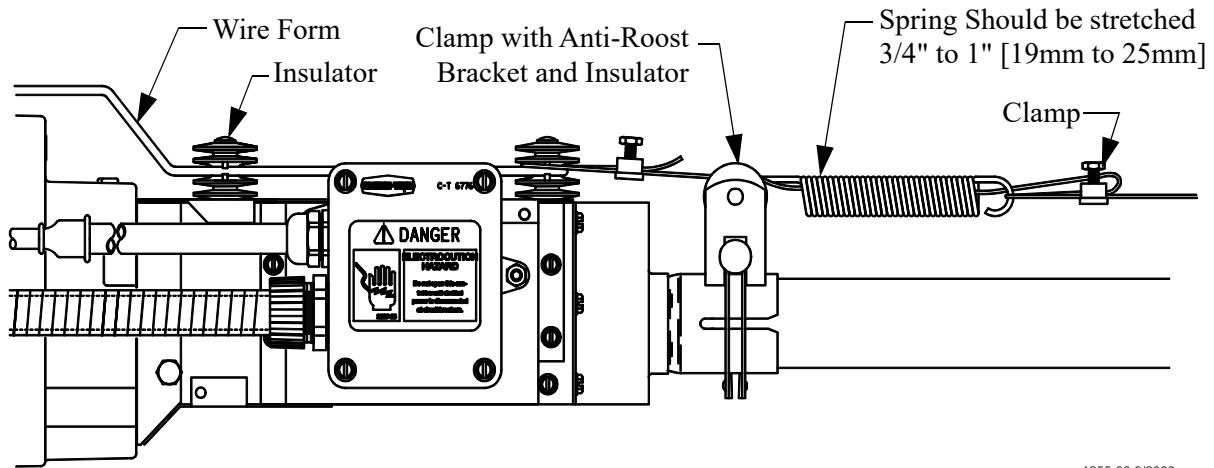

Figure 46. Anti-Roost Installation at the Control Unit
9. At the control unit, after clamping the cable to the spring, cut the cable about 8" to 10" [200 to 250 mm] longer than necessary. Feed the end of the cable through the center of the spring, around the first insulator on the control unit, and clamp the cable using the cable clamp supplied with the control unit. (See **Figure 46**). Install the wire form on the control unit insulators. Be sure the guard snaps into the retainers molded into the insulators. (See **Figure 46**).